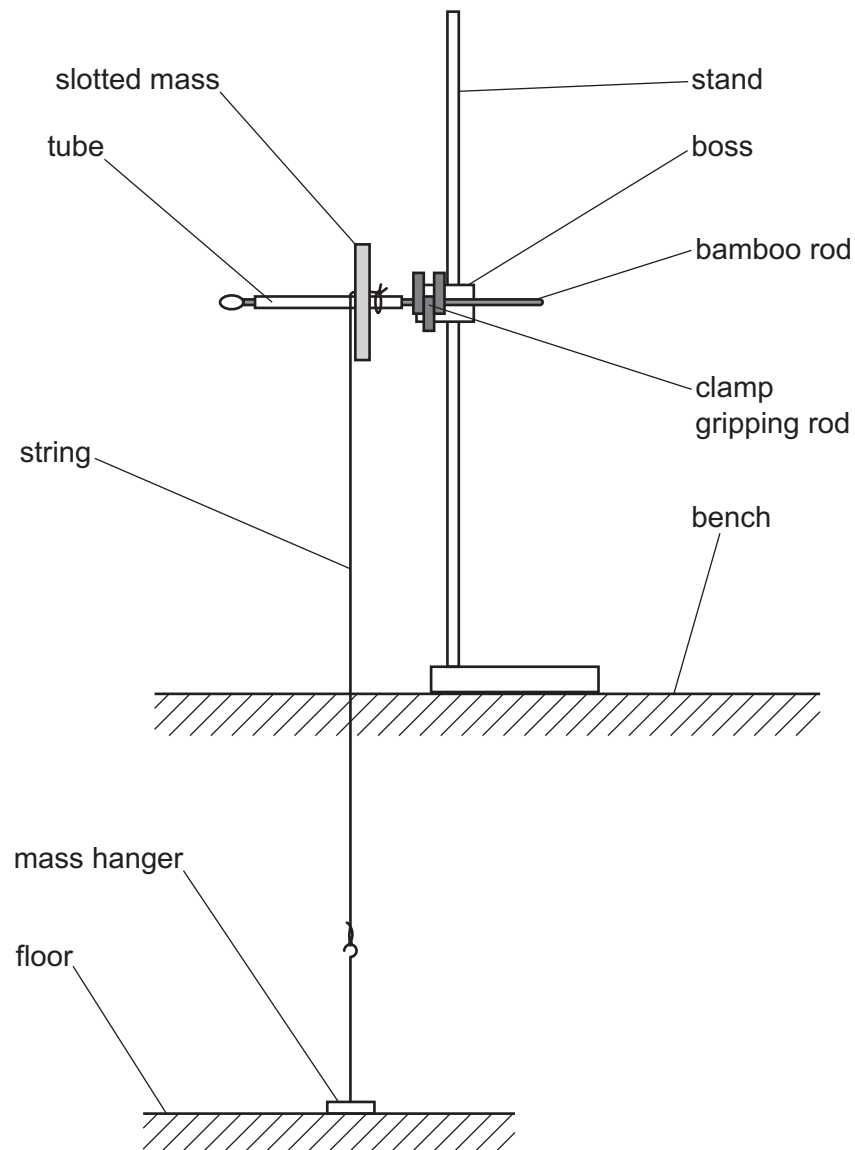

Fig. 2.2
- (iii) • Assemble the apparatus as shown in Fig. 2.2.
- Pass the string through the slot of the slotted mass and tie it to the tube, as shown in Fig. 2.2.